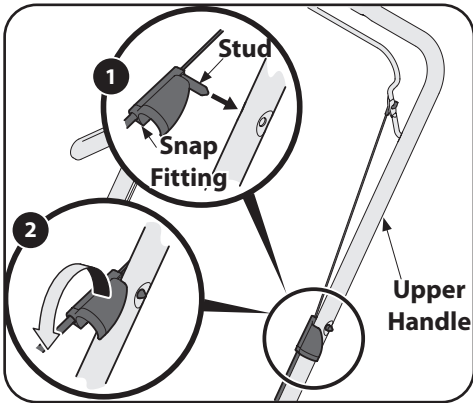

Figure 2-3
1. Press the stud found inside the snap fitting into the hole found on the left side of the upper handle, as shown in Figure 2-3.